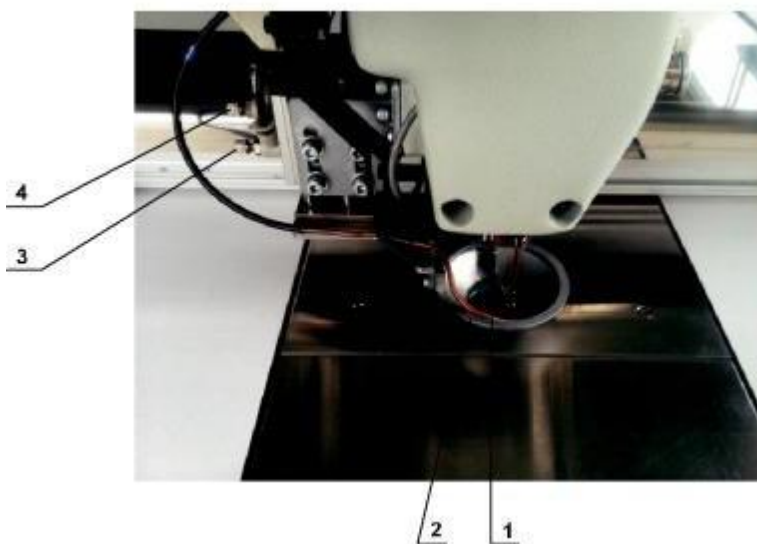

Fig 22
2.9 adjusting the pladgr called prexxure(fig 22)
2.11 Adjust the pressure of the auxiliary pressure foot (fig 22)
2.11.2 As shown in figure 22 adjust the upper and lower throttle valve of the auxiliary pressure foot cylinder 3 4 adjust the moving speed and pressure of the auxiliary pressure foot up and down.
It is different to replace or disassemble the auxiliary pressure foot according to the actual situation of sewing fig.22 is the auxiliary big pressure foot (installed in factory).